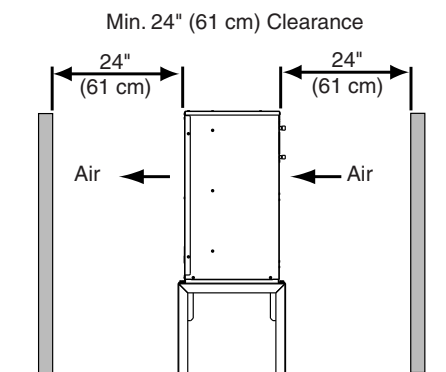

Fig. 2
- A dry and well ventilated area with 24" (61 cm) clearance in both front and rear for proper air circulation and ease of maintenance and/or service should they be required. See Fig. 2.